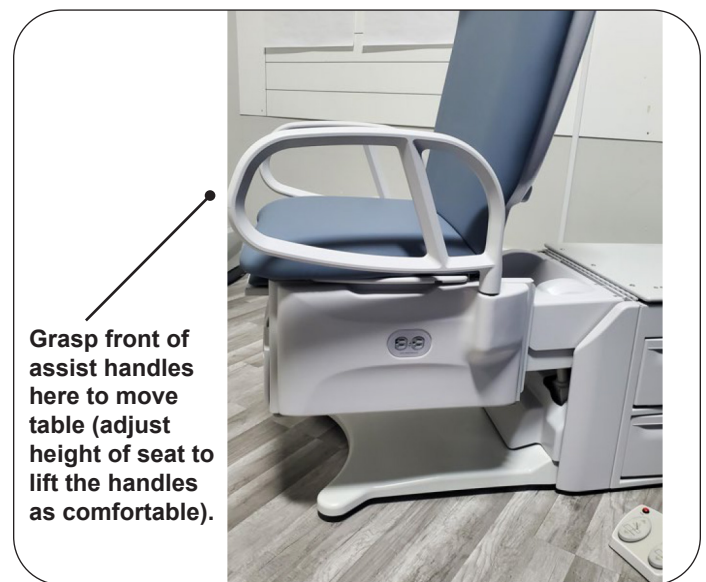

Figure 41. EasyGlide Mobility Option Switch
3. Turn the switch clockwise to the upper position shown in Figure 41, indicated by the table movement decal.